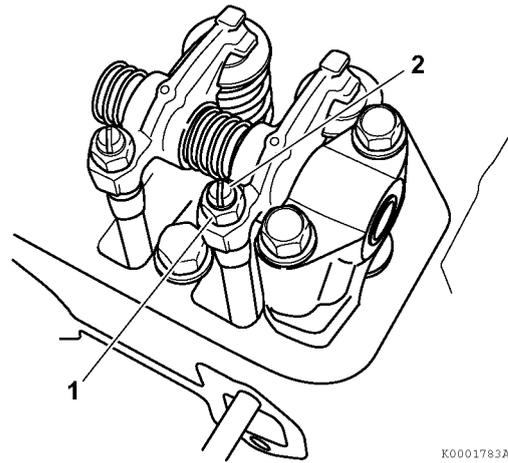

Figure 6-42
5. Loosen the valve adjusting screw lock nut (1, **Figure 6-42**) and valve adjusting screw (2, **Figure 6-42**) on the rocker arm and check the valve for inclination of the valve cap, entrance of dirt, or wear.
6. Insert a feeler gauge of the correct thickness (1, **Figure 6-43**) (see *Adjustment Specifications* on page 6-4) between the rocker arm and valve cap. Turn the valve adjustment screw to adjust the valve clearance so there is a slight “drag” on the feeler gauge when sliding it between the rocker arm and the valve cap. Hold the adjusting screw while tightening the valve adjusting screw lock nut (1, **Figure 6-42**). Recheck the clearance.